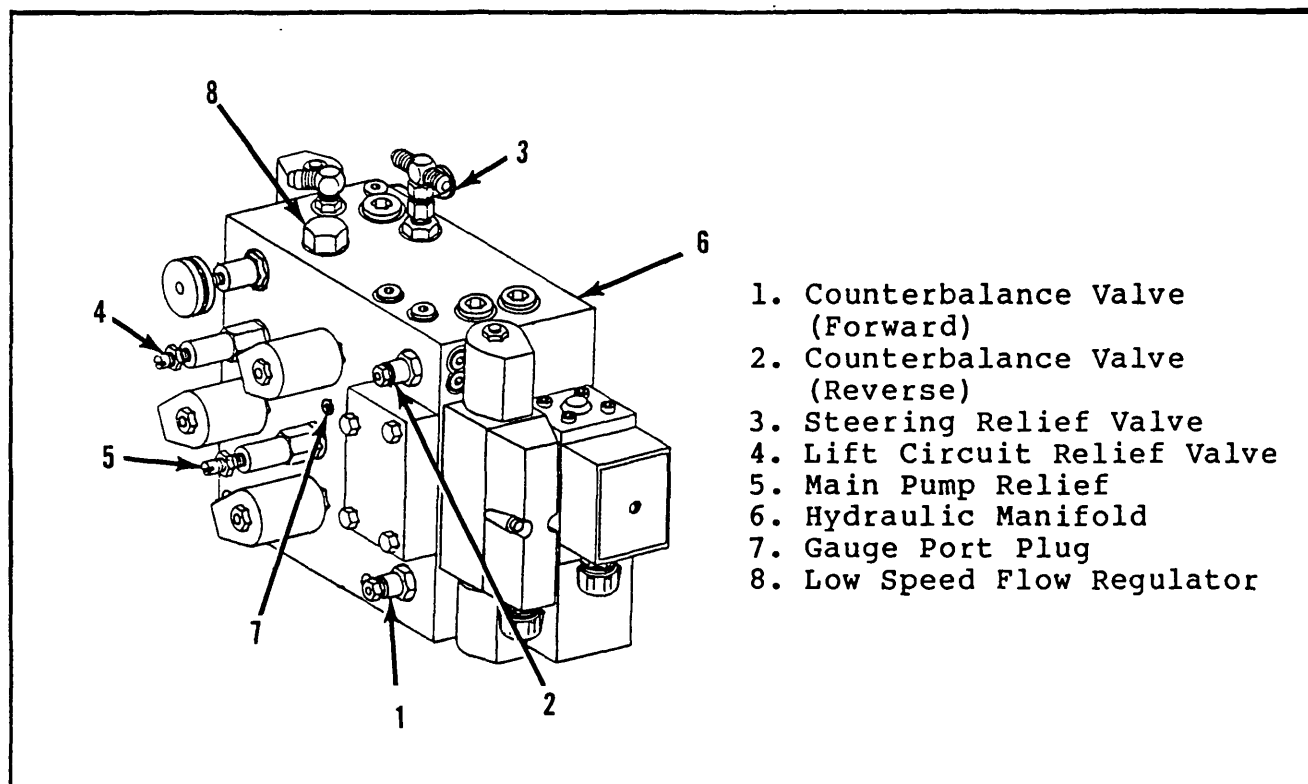

Figure 5-7. Hydraulic Pressure Adjustment
5-15. SETTING HYDRAULIC PRESSURES (Figure 5-7).
a. Main Pump Relief Valve (5, Figure 5-7).
(1) Operate the hydraulic system 10-15 minutes to warm the oil.
(2) Remove the plug (7, Figure 5-7) in the Gauge Port and install a 0-3000 psi pressure gauge.
(3) Disconnect one of the quick-disconnect connectors in the Lift Limit Switch wires (located by terminal block).
(4) Loosen the locknut on the Main Pump Relief Valve (5, Figure 5-7).
(5) Position the Chassis Lift Switch to UP position and hold it there.
(6) Slowly screw the adjusting screw in to increase the pressure to 2950 psi, then tighten the locknut.
(7) Reconnect the Lift Limit Switch wire.
(8) Remove pressure gauge and install plug (7, Figure 5-7).
b. Lift Circuit Relief Valve (4, Figure 5-7).
(1) Remove the Gauge Port Plug (7, Figure 5-7) and install an 0-3000 psi pressure gauge or if the Main Relief Valve has just been adjusted leave the gauge connected.
(2) Operate the hydraulic system 10 to 15 minutes to warm the hydraulic oil
(3) Position a 550 lb. load centered on the platform.
(8) Operate lift system stop and starting to ensure proper function.
(9) Remove the pressure gauge from the gauge port and install plug.
(10) Remove load and check for leaks.
c. Steering Relief Valve (3, Figure 5-7).
(1) Disconnect the hydraulic hose on the left side of the steering cylinder and install an 0-3000 psi pressure gauge.
(2) Operate the hydraulic system 10 to 15 minutes to warm the hydraulic oil.
(3) Turn the Mode Switch to **DRIVE** position.
(4) Position the Steer Switch to **LEFT** and hold it there. Observe the pressure gauge.
(5) The gauge should read 1950 psi. If not, loosen the locknut on the Steering Relief Valve (3, Figure 5-7).
(6) Back the adjustment screw **OUT** several turns and then slowly turn the screw **IN** until the appropriate pressure is reached. Tighten locknut.
(7) Release the Steering Switch and remove the gauge from the steering hose.
(8) Reconnect the Steering Cylinder Hose and operate the steering system to expel trapped air and check for leaks.
d. Counterbalance Valve (1,2, Figure 5-7).
(1) Remove Gauge Port Plug (7, Figure 5-7) and install an 0-3000 psi pressure gauge.
(2) Lift work platform and block front wheels off ground.
(3) Operate the hydraulic system 10 to 15 minutes to warm the hydraulic oil.